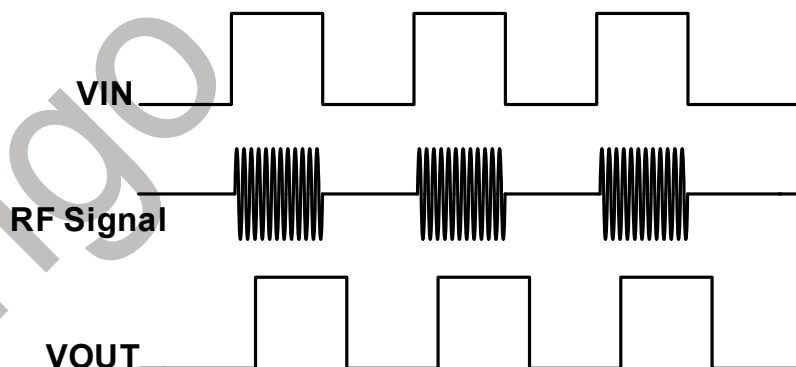

Figure 8-2 Conceptual Operation Waveforms of a Single Channel
The V3164 use a simple ON-OFF keying (OOK) modulation scheme to transmit signal across the SiO₂ isolation capacitors that provide a robust insulation between two different voltage domain and act as a high frequency signal path between the input and the output. The transmitter (TX) modulates the input signal onto the carrier frequency, that is, TX delivers high frequency signal across the isolation barrier in one input state and delivers no signal across the barrier in the other input state. Then the receiver rebuilds the input signal according to the detected in-band energy. If the ENx pin is low then the output goes to high impedance state and will be pulled up to V_{DD0} (V3164). This simple architecture offers a robust isolated data path and requires no special considerations or initialization at start-up. The capacitor-based signal path is fully differential to maximize noise immunity, which is also known as common-mode transient immunity. Advanced circuitry techniques are applied for better EMI introduced by the carrier signal and IO switching. The capacitively-coupled architecture provides much higher electromagnetic immunity compared to the inductively-coupled one. And OOK modulation scheme eliminates the missing-pulse error that occurs in the pulse modulation method. A simplified functional block diagram and conceptual operation waveforms of a single channel is shown in Figure 8-1and Figure 8-2.